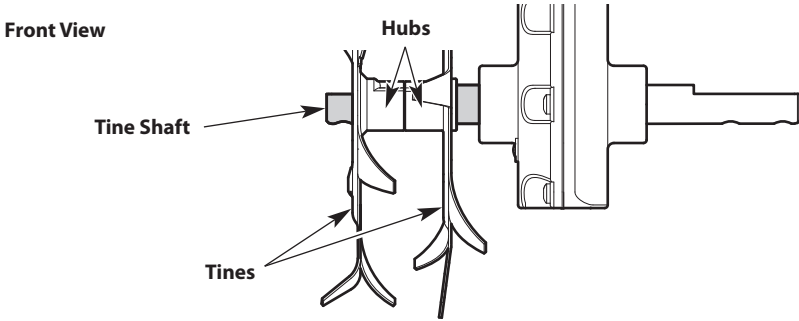

Fig. 10
2. Slide two new tines onto one of the tine shafts. The hubs must face toward each other (Fig. 10).